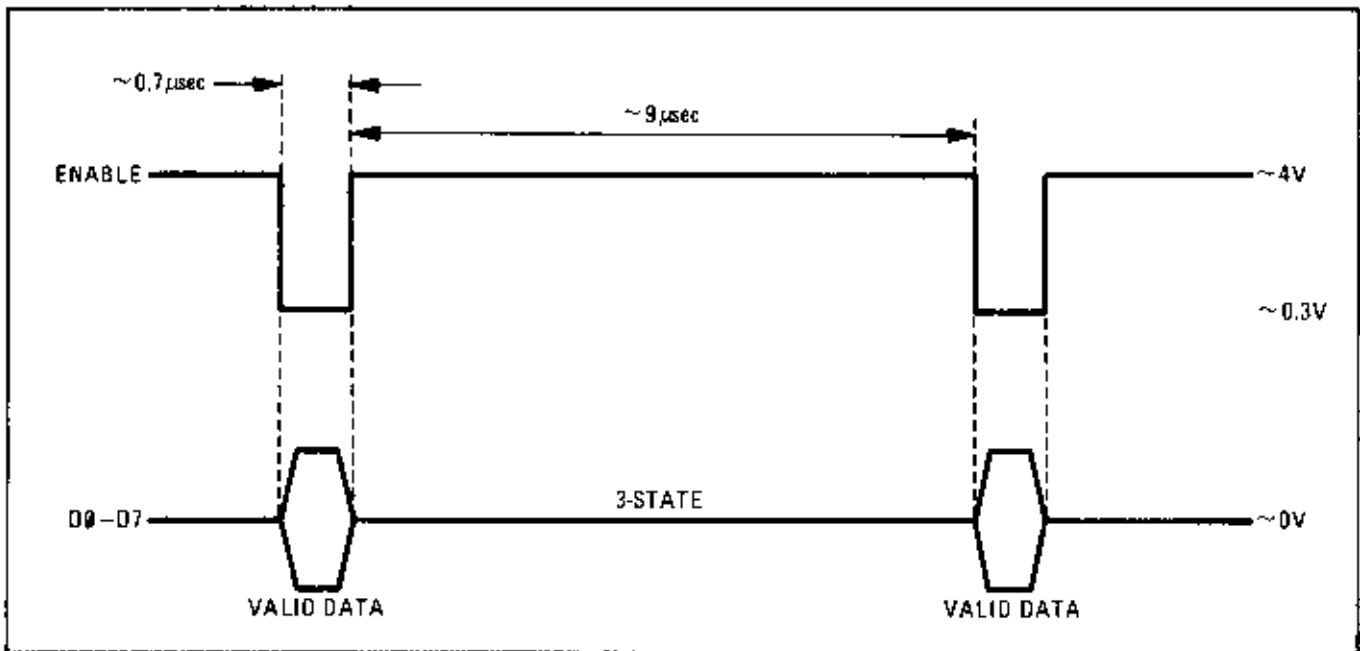

Figure 8-3. Hex Addressed Fast Read — Timing Diagram
- **HEX ADDRESSED FAST READ. M5** . provides an operator-initiated check for verification of the data bus, in which the addressed device is clocked in real time. Latch outputs can be traced from the onboard location back through the data bus to the microprocessor. At each buffer, verify TTL level response to the enable pulse. Enable line waveforms are shown in Figure 8-3.